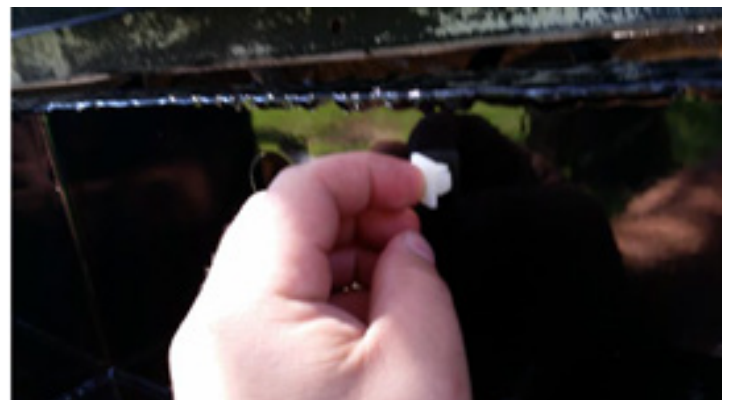

Figure 5
9. Reinstall license plate with provided plastic inserts. (TXX50-HW) (Figure 5)